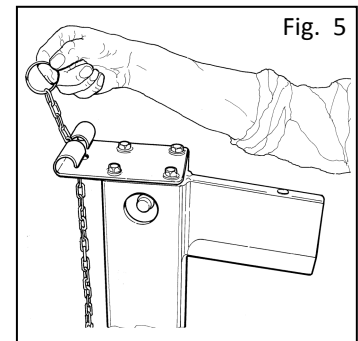

Fig. 5
- For all models place the chain in the highest position possible. (Fig. 5)
- **Adjust the chain for the desired stroke** (fig. 5).